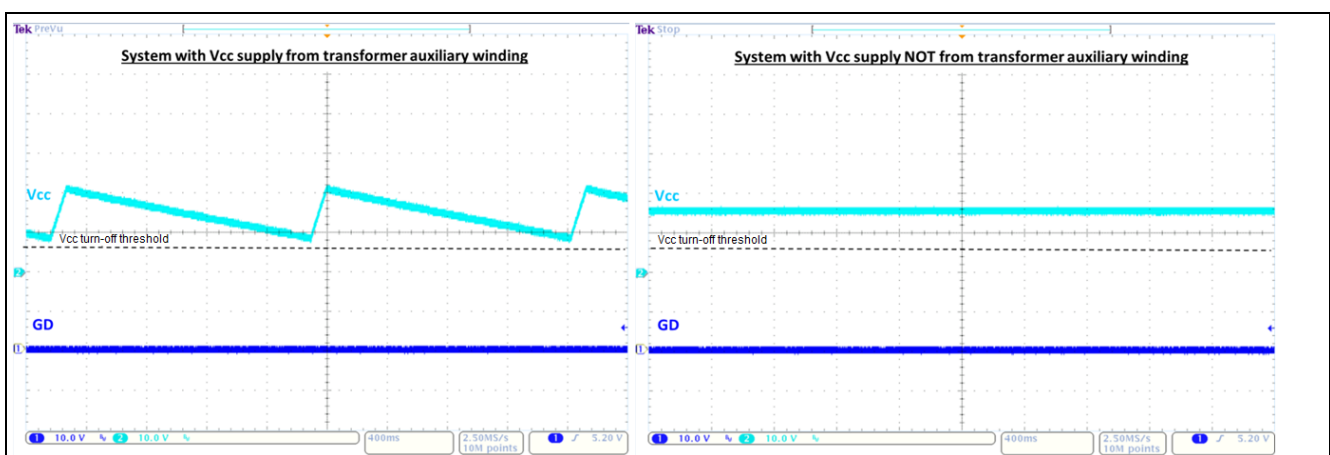

Figure 30 Waveform Examples of Configuration Mode or System Protection with Latch-mode Reaction
Scenario 3: If the GD pin signal stays low while V_{CC} stays above the turn-off threshold e.g. 6 V, it means the controller has entered a protection state with latch-mode reaction or the configuration mode. See waveform examples in Figure 30.
- Disconnect the interface board before powering up the board. The most common example of false entry to the configuration mode is to power up the board while it is connected to the .dp interface gen2 (with the “DP2x supply” or/and “DP2x Sync” LEDs on). If that is the case, the measured waveform will be similar to the waveform example on the right of Figure 30, but with a V_{CC} level of approximately 7.5 V.